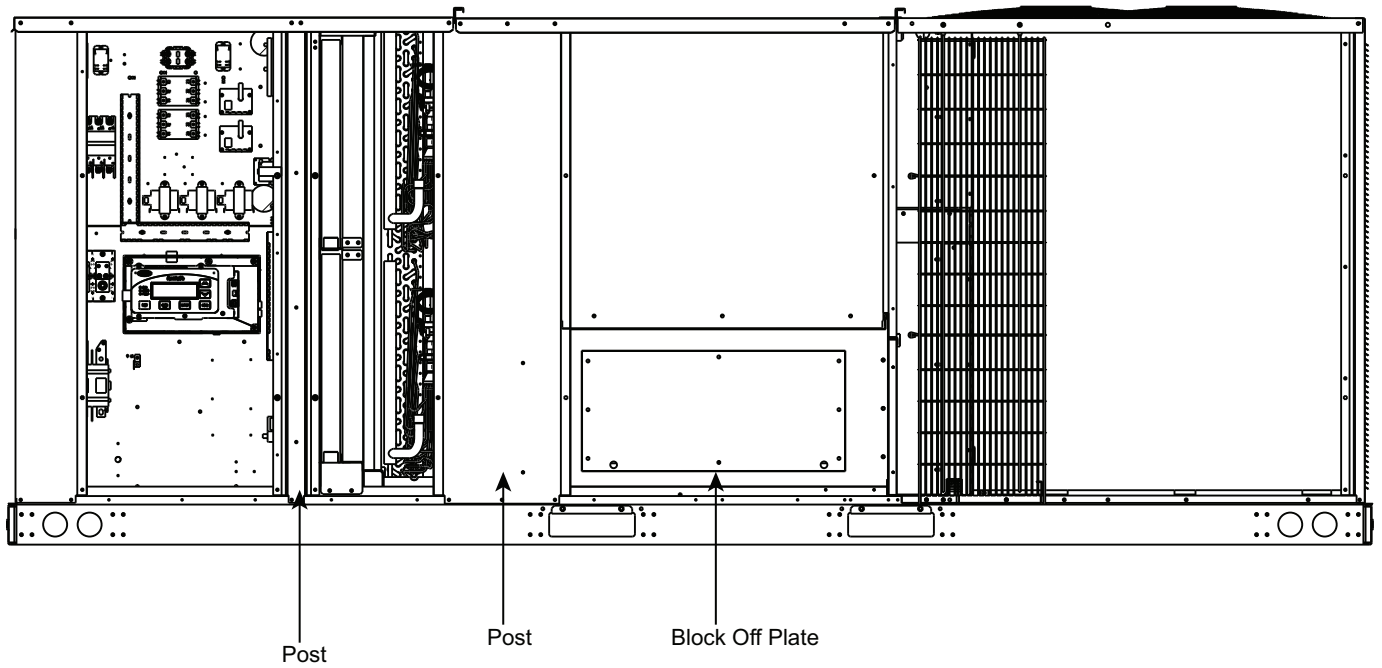

Fig. 46 — Block-Off Plate and Post Locations
3. Remove the block-off plate and save screws. Remove post adjacent to control box and post located between filter access and blower access. (See Fig. 46.)